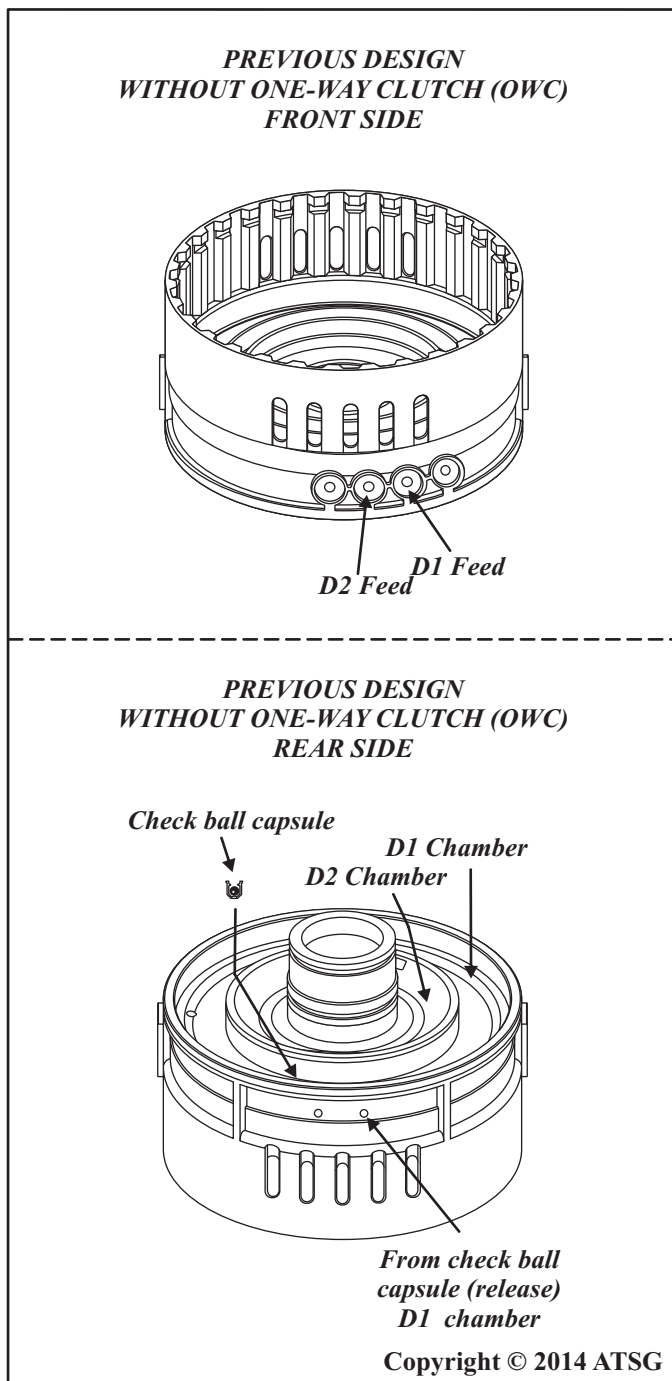

Figure 115
2. The diagrams below in Figures 115 and 116 illustrate the hydraulic differences.